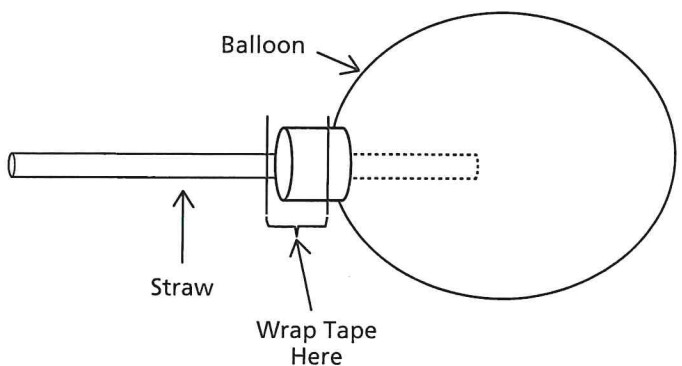

Figure 3: Balloon Attachment to the Straw
4. Attach a balloon to the straw (Figure 3). Wrap tape around the mouth of the balloon and ensure that no air escapes when the balloon is inflated. Designate 1 group member to blow up the balloon.